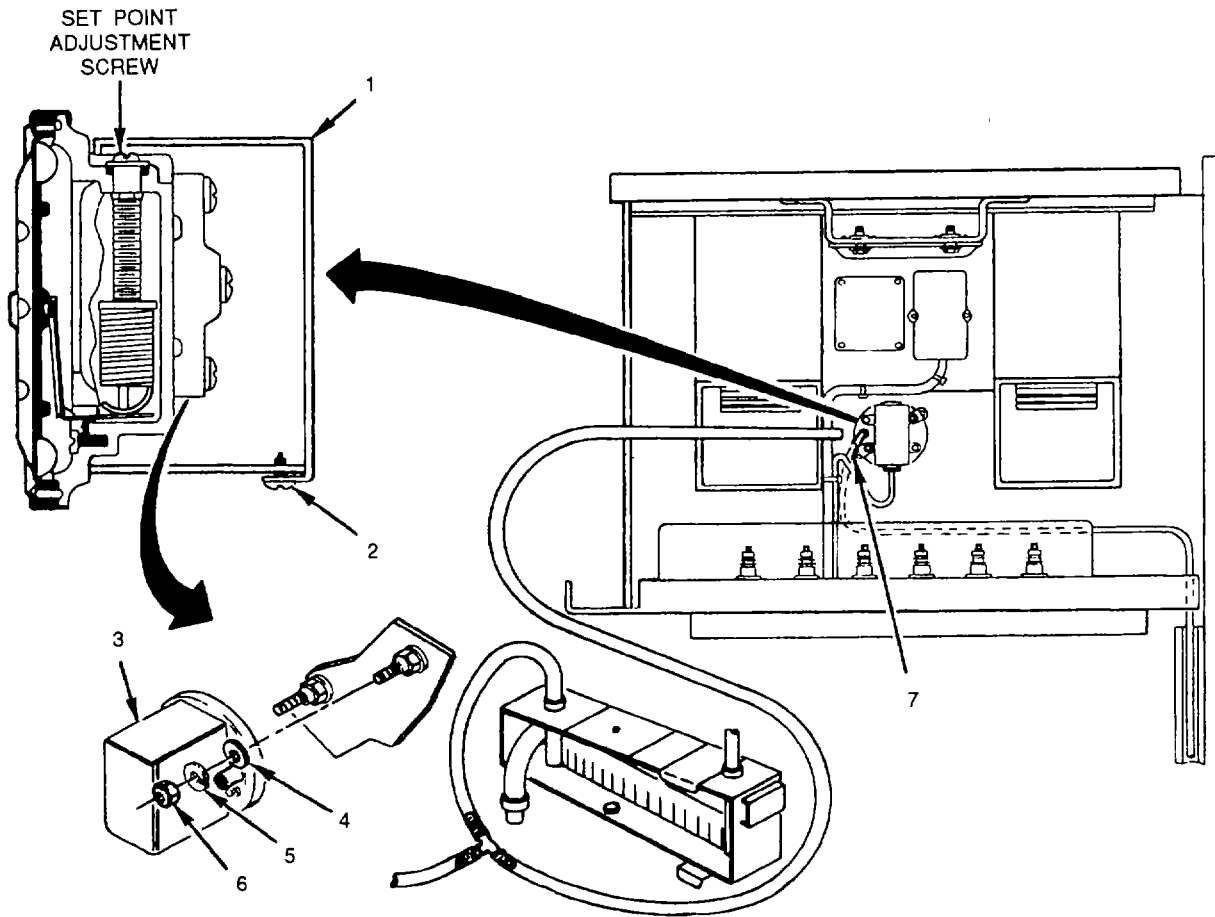

Figure 4-45. Airflow Filter Switch (S3)
- a. Remove cover screw (2) and unsnap cover (1) from switch (3) (see fig. 4-45).
- c. Remove air hose (7).
- d. Remove two nuts (6), lockwashers (5), and flat washers (4)
- e. Remove switch (3)
- a. Check for airflow through switch (3). If airflow is restricted, replace switch
- b. Check switch (3) for cracks, breaks or dents. Replace If damaged